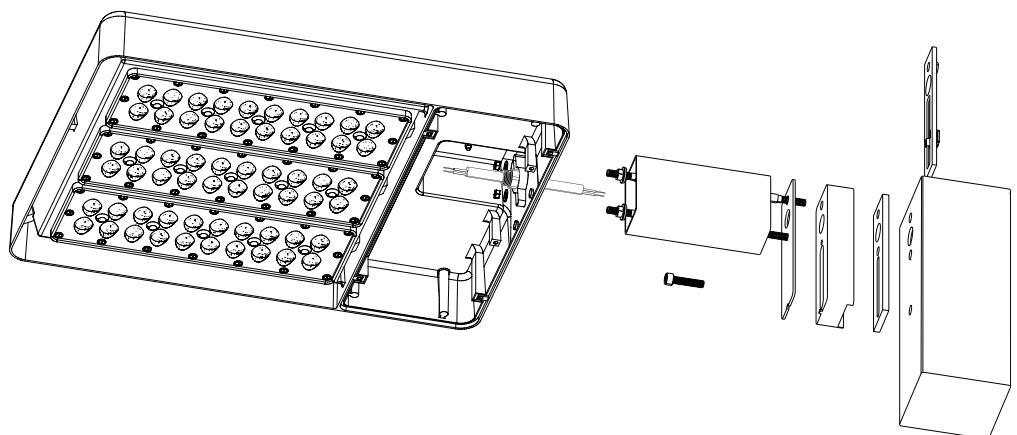

Fig. G-1
2. Ensure the foam gasket is in place in the back of the universal arm mount body and pass the 225mm threaded rod through the universal arm mount body and thread into the brace inside the pole. Insert the 35mm hex head bolt through the arm mount body and into the brace inside the pole and tighten to 175 in-lbs (25Nm). (Fig. G-1)